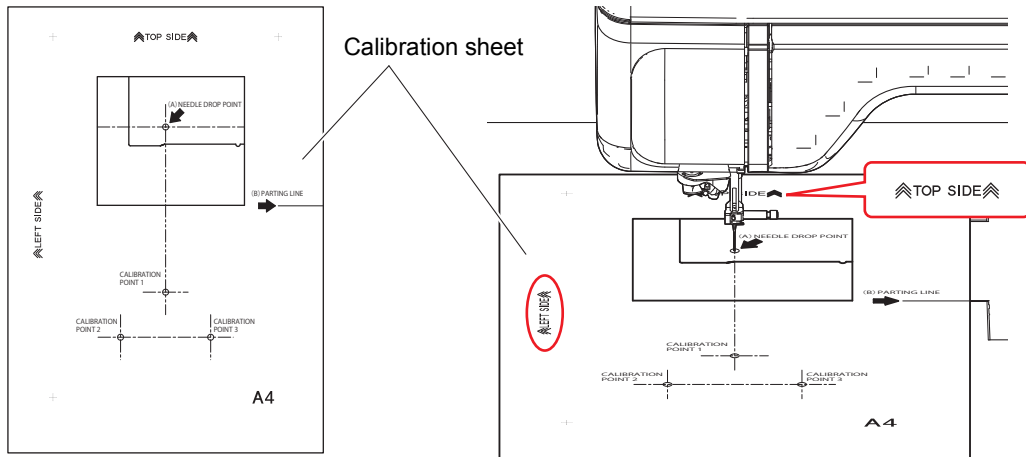

Fig.6
6. Put the calibration sheet on the needle plate. (Fig.6)